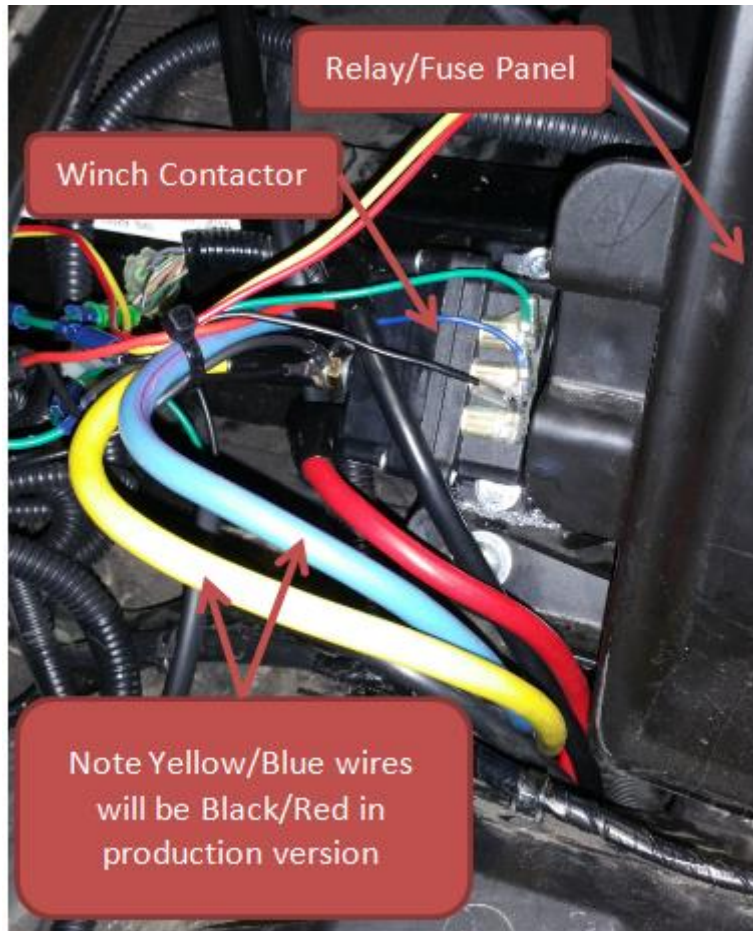

Figure 8
8. Mount the winch contactor on the passenger side of the front relay/fuse panel as shown in Figure 8.